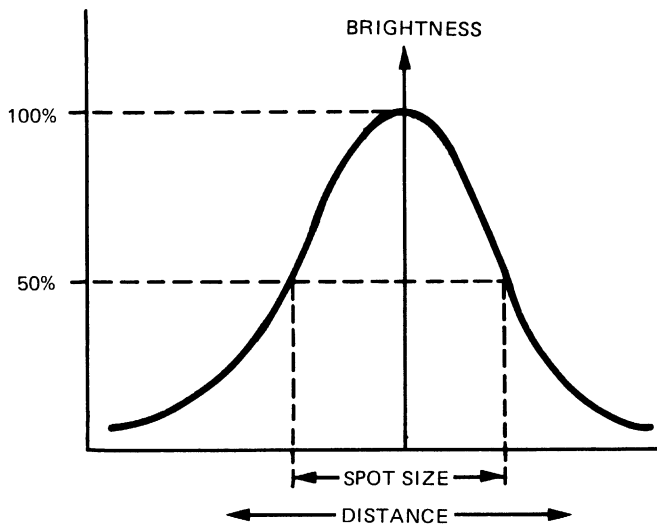

Figure 3-3. Brightness vs Cross Section of Typical CRT Spot
**3-21. Spot Size and Resolution.** If you scan a CRT spot with a microscope photometer and plot brightness versus distance (spot width), the result approximates a Gaussian curve (figure 3-3). The spot size is the width of the Gaussian curve at its 50% point (see section I, table 1-2).